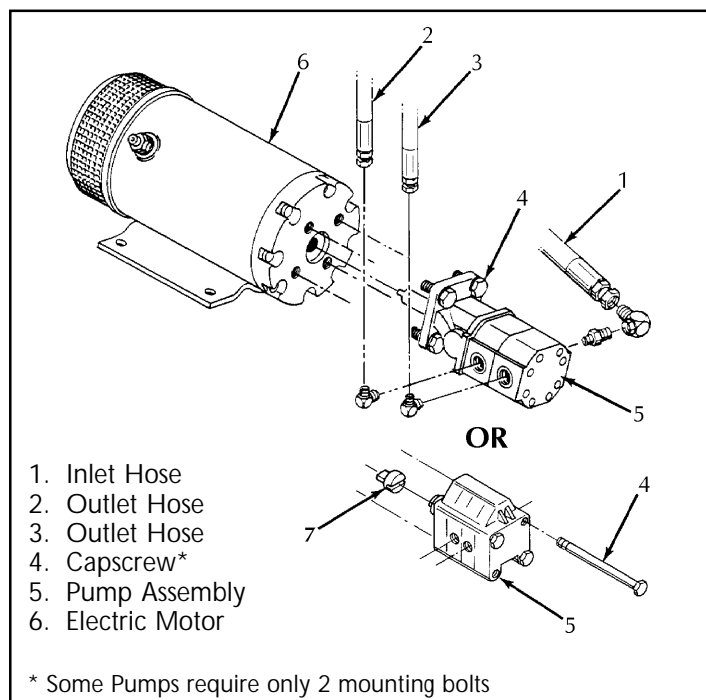

Figure 4-12: Hydraulic Pump
4.8 Hydraulic Pump (Figure 4-12)